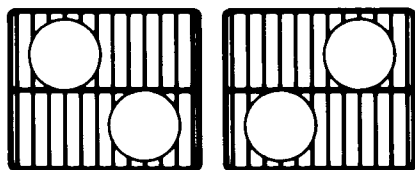

FIG. 14 PAN POSITIONING—TOP RACK (LEFT), BOTTOM RACK (RIGHT)
- Do not place pans in the oven directly over each other. Stagger the pans so that air flow will not be inhibited. See Figure 14.
When more than one utensil is used, be sure to stagger them allowing space between each one. See Figure 14. Don’t allow the utensils to touch any part of the oven, especially the glass window. It is best to use 2 racks and place food so one utensil is not directly over another. Convection oven models have 3 racks.